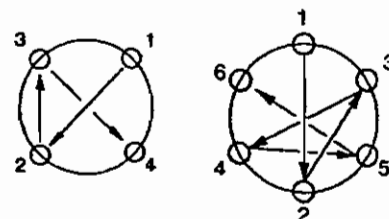

Fig. 11.2 Torque sequences
Tighten the screws and nuts for the valve heads and cylinders equally as illustrated by the sequence shown below (fig. 11.2).
- Torque the valve head hex bushings (26) to 18 ft-lb (25 Nm) in accordance with the sequence shown in fig. 11.2 **before** tightening the socket set screw (13) in order to avoid damage to the valve body (9).
- Tighten the socket set screw (13) with the appropriate sized allen wrench.
- Position the gasket (14) and dome nut (15) and tighten it with an open end wrench.
- Reinstall the tube connections (18,21) to the valve head (19).